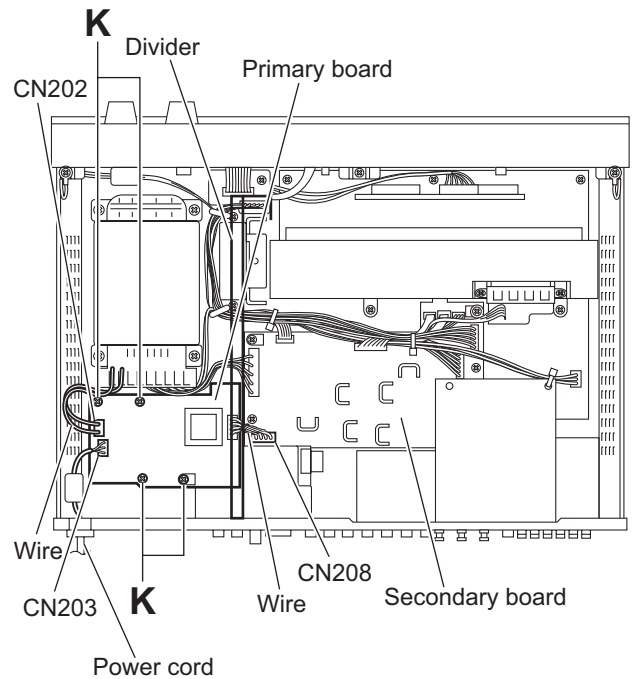

Fig.11
3.8 Removing the primary board (See Fig.11)